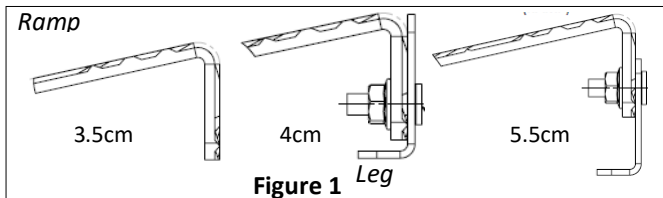

Figure 1
- Measure the height of the threshold and choose the suited configuration (fig 1.)